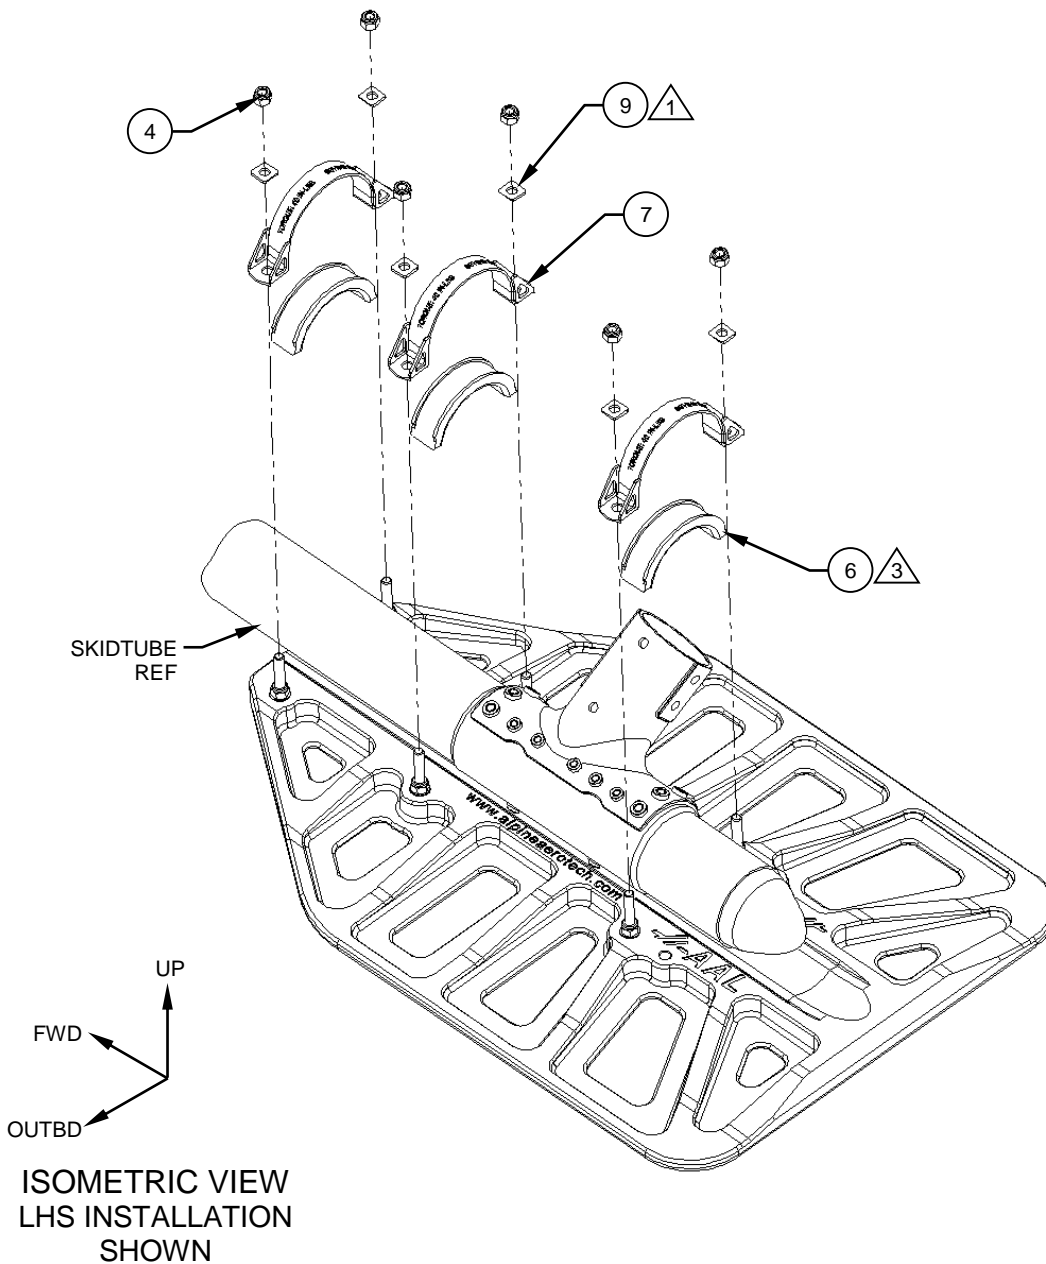

Figure 6
2. Attach Cap, Details (Item 6) to Strap, Assys (Item 7) center the cap to the strap. Reference Figures 6 & 7.
4. Once the Bear Paw, Detail (Item 1) is under the skid tube in its approximate location, place the Strap, Assy's (Item 7) Cap, Details (Item 6) and associated hardware (Items 4 & 9) on their corresponding studs and capture the stud with its respective self-locking nut (Item 4) and washer (Item 9). Reference Figures 6 & 7.
5. Lower the aircraft onto the Bear Paw, Detail (Item 1) and torque fasteners equally to 40 in-lbs. Ensure that the relieved edge of the Washer, Radius (Item 9) is oriented towards the skid tube. Reference Figures 6 & 7.